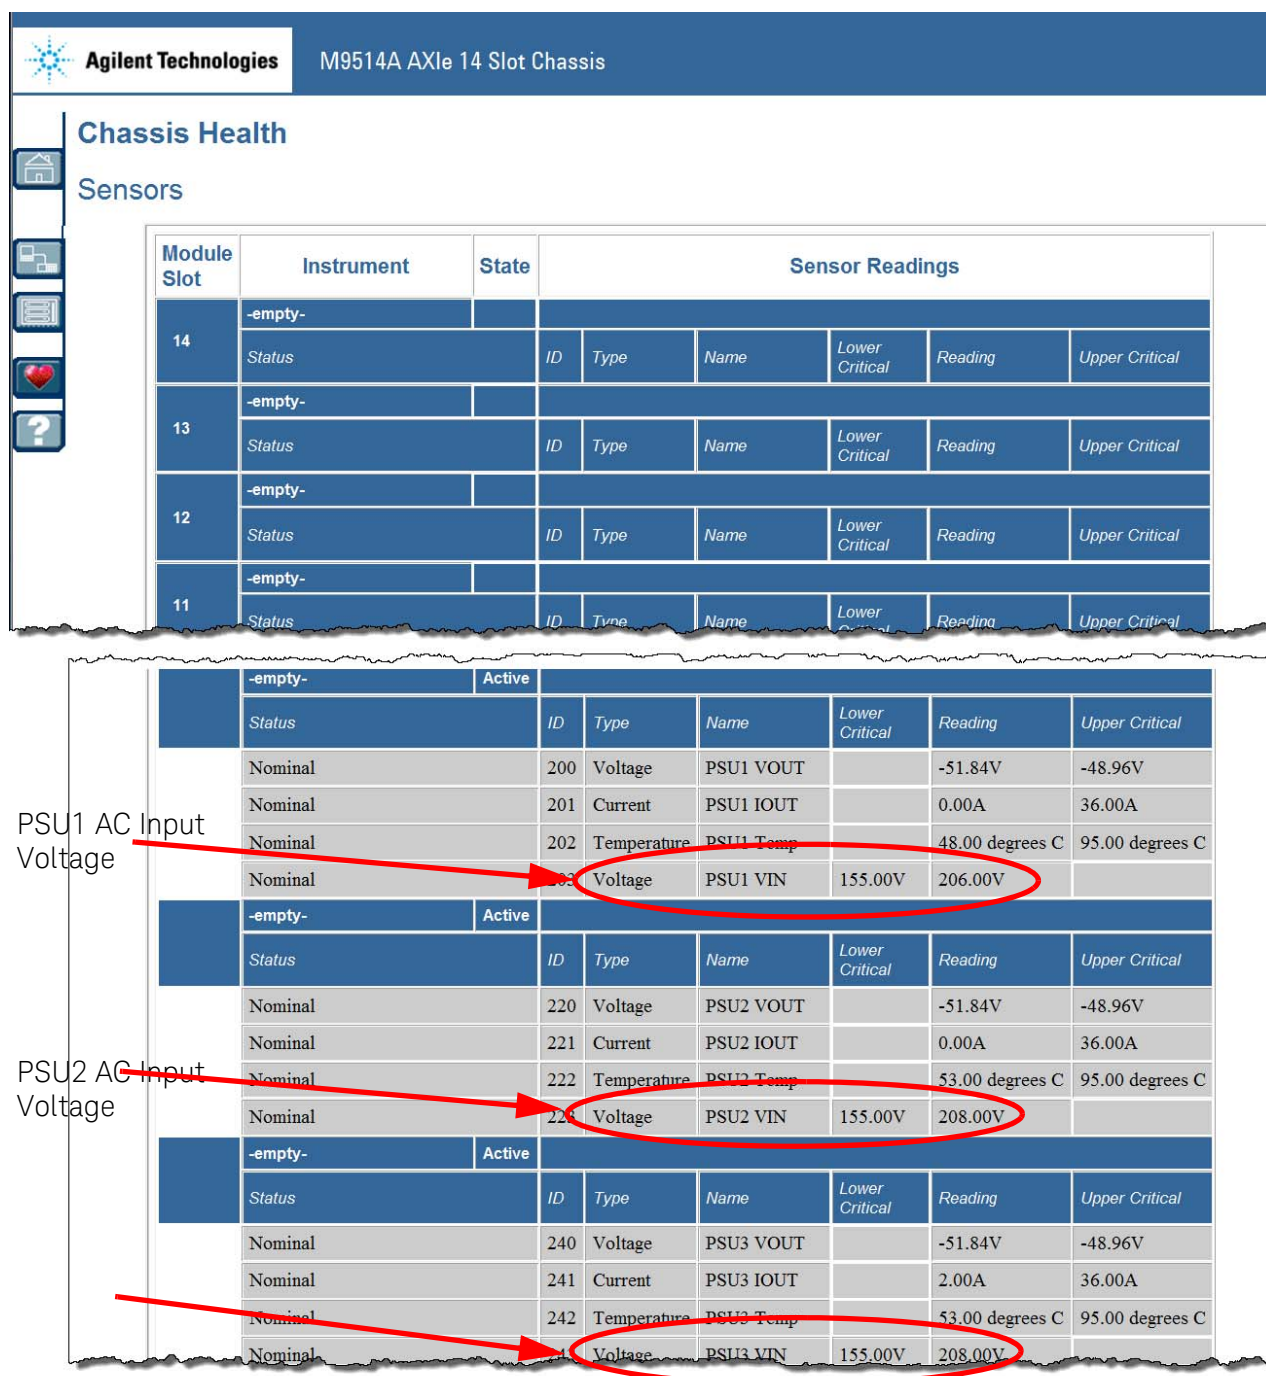

Figure 3 Normal Line voltage shown on the M9514A Web Page (shows normal AC Line voltage)
- The chassis web page displays the AC input voltages to the three PSUs. See Figure 3 on page 27.